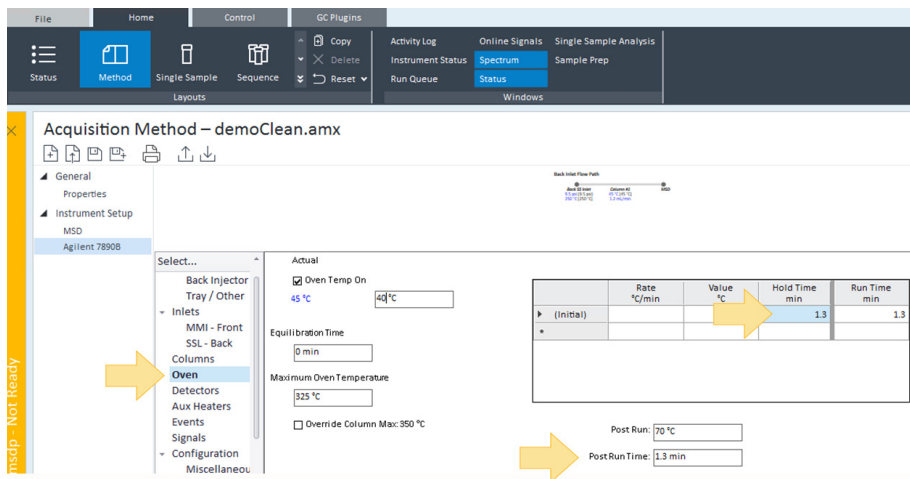

Figure 13. Hold Time and Post Run Time settings
- 5 Select **Instrument Setup > GC > Oven** and modify the **Hold Time** and **Post Run Time** to correspond with those set in the MSD JetClean Cleaning window (1.3 minutes in the example shown in **Figure 13**).